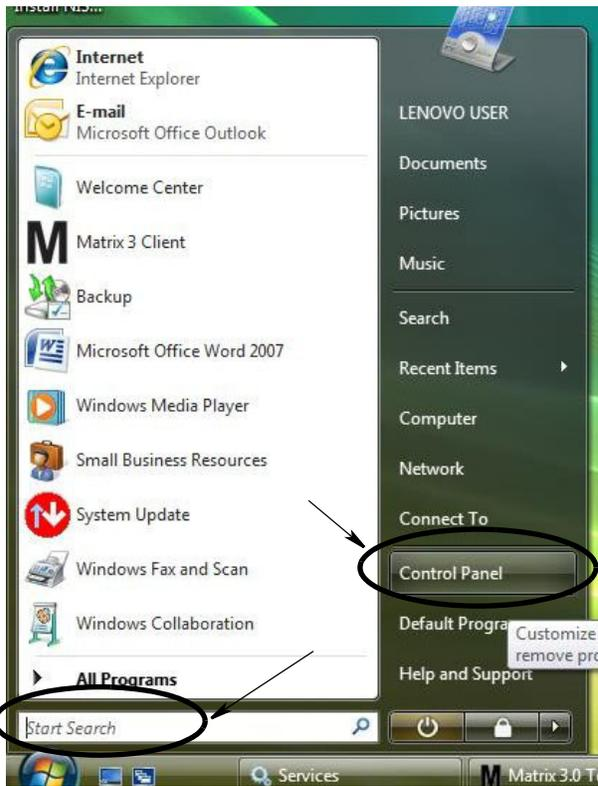

FIG. 16
1. On the Windows Vista desktop select Start Search / Control Panel (FIG. 16).